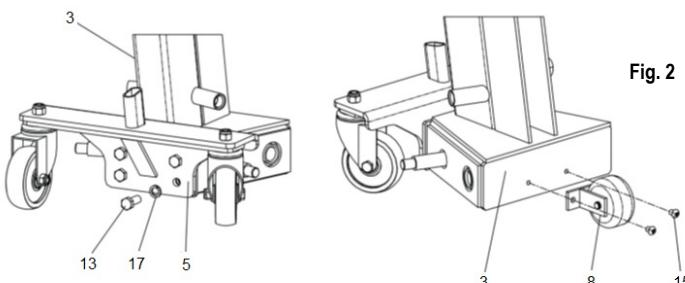

Fig. 2
1. Use the screw (13 - Fig. 2) and the elastic washer (17 – Fig. 2) to connect the rear wheel unit (5 – Fig. 2) to the frame (3 – Fig. 2). Use the screw (15 – Fig. 2) to fix the parts of the auxiliary wheel (8 – Fig. 2) to the frame (3 – Fig. 2), and lock the screws.